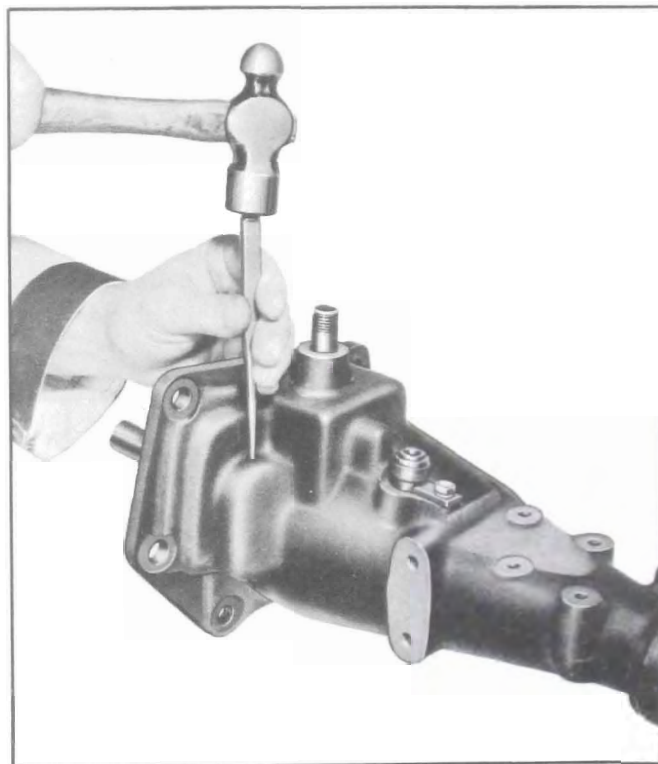

Figure 4-55—Removing Reverse Idler Shaft Lock Pin
1. With case extension removed from the transmission, drive the reverse idler shaft lock pin into the boss until it falls into the clearance hole in the shaft. See fig. 4-55.